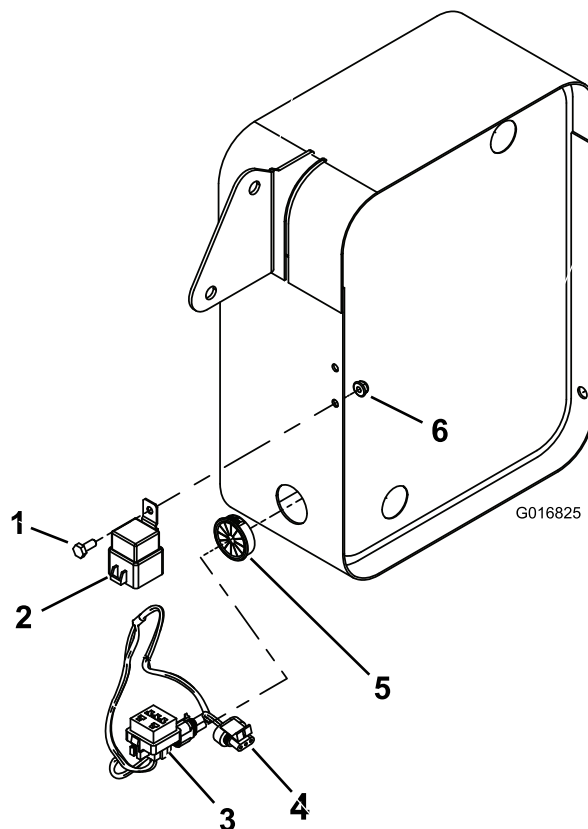

Figure 3
2. Unplug the jumper from the end of the wire harness, and mount the relay to the side of the oil cooler support with a hex-head bolt (1/4 x 5/8 inch) and a hex-flange nut (1/4 inch) (Figure 3).
3. Insert the bushing into the lower side opening in the oil cooler (Figure 3).